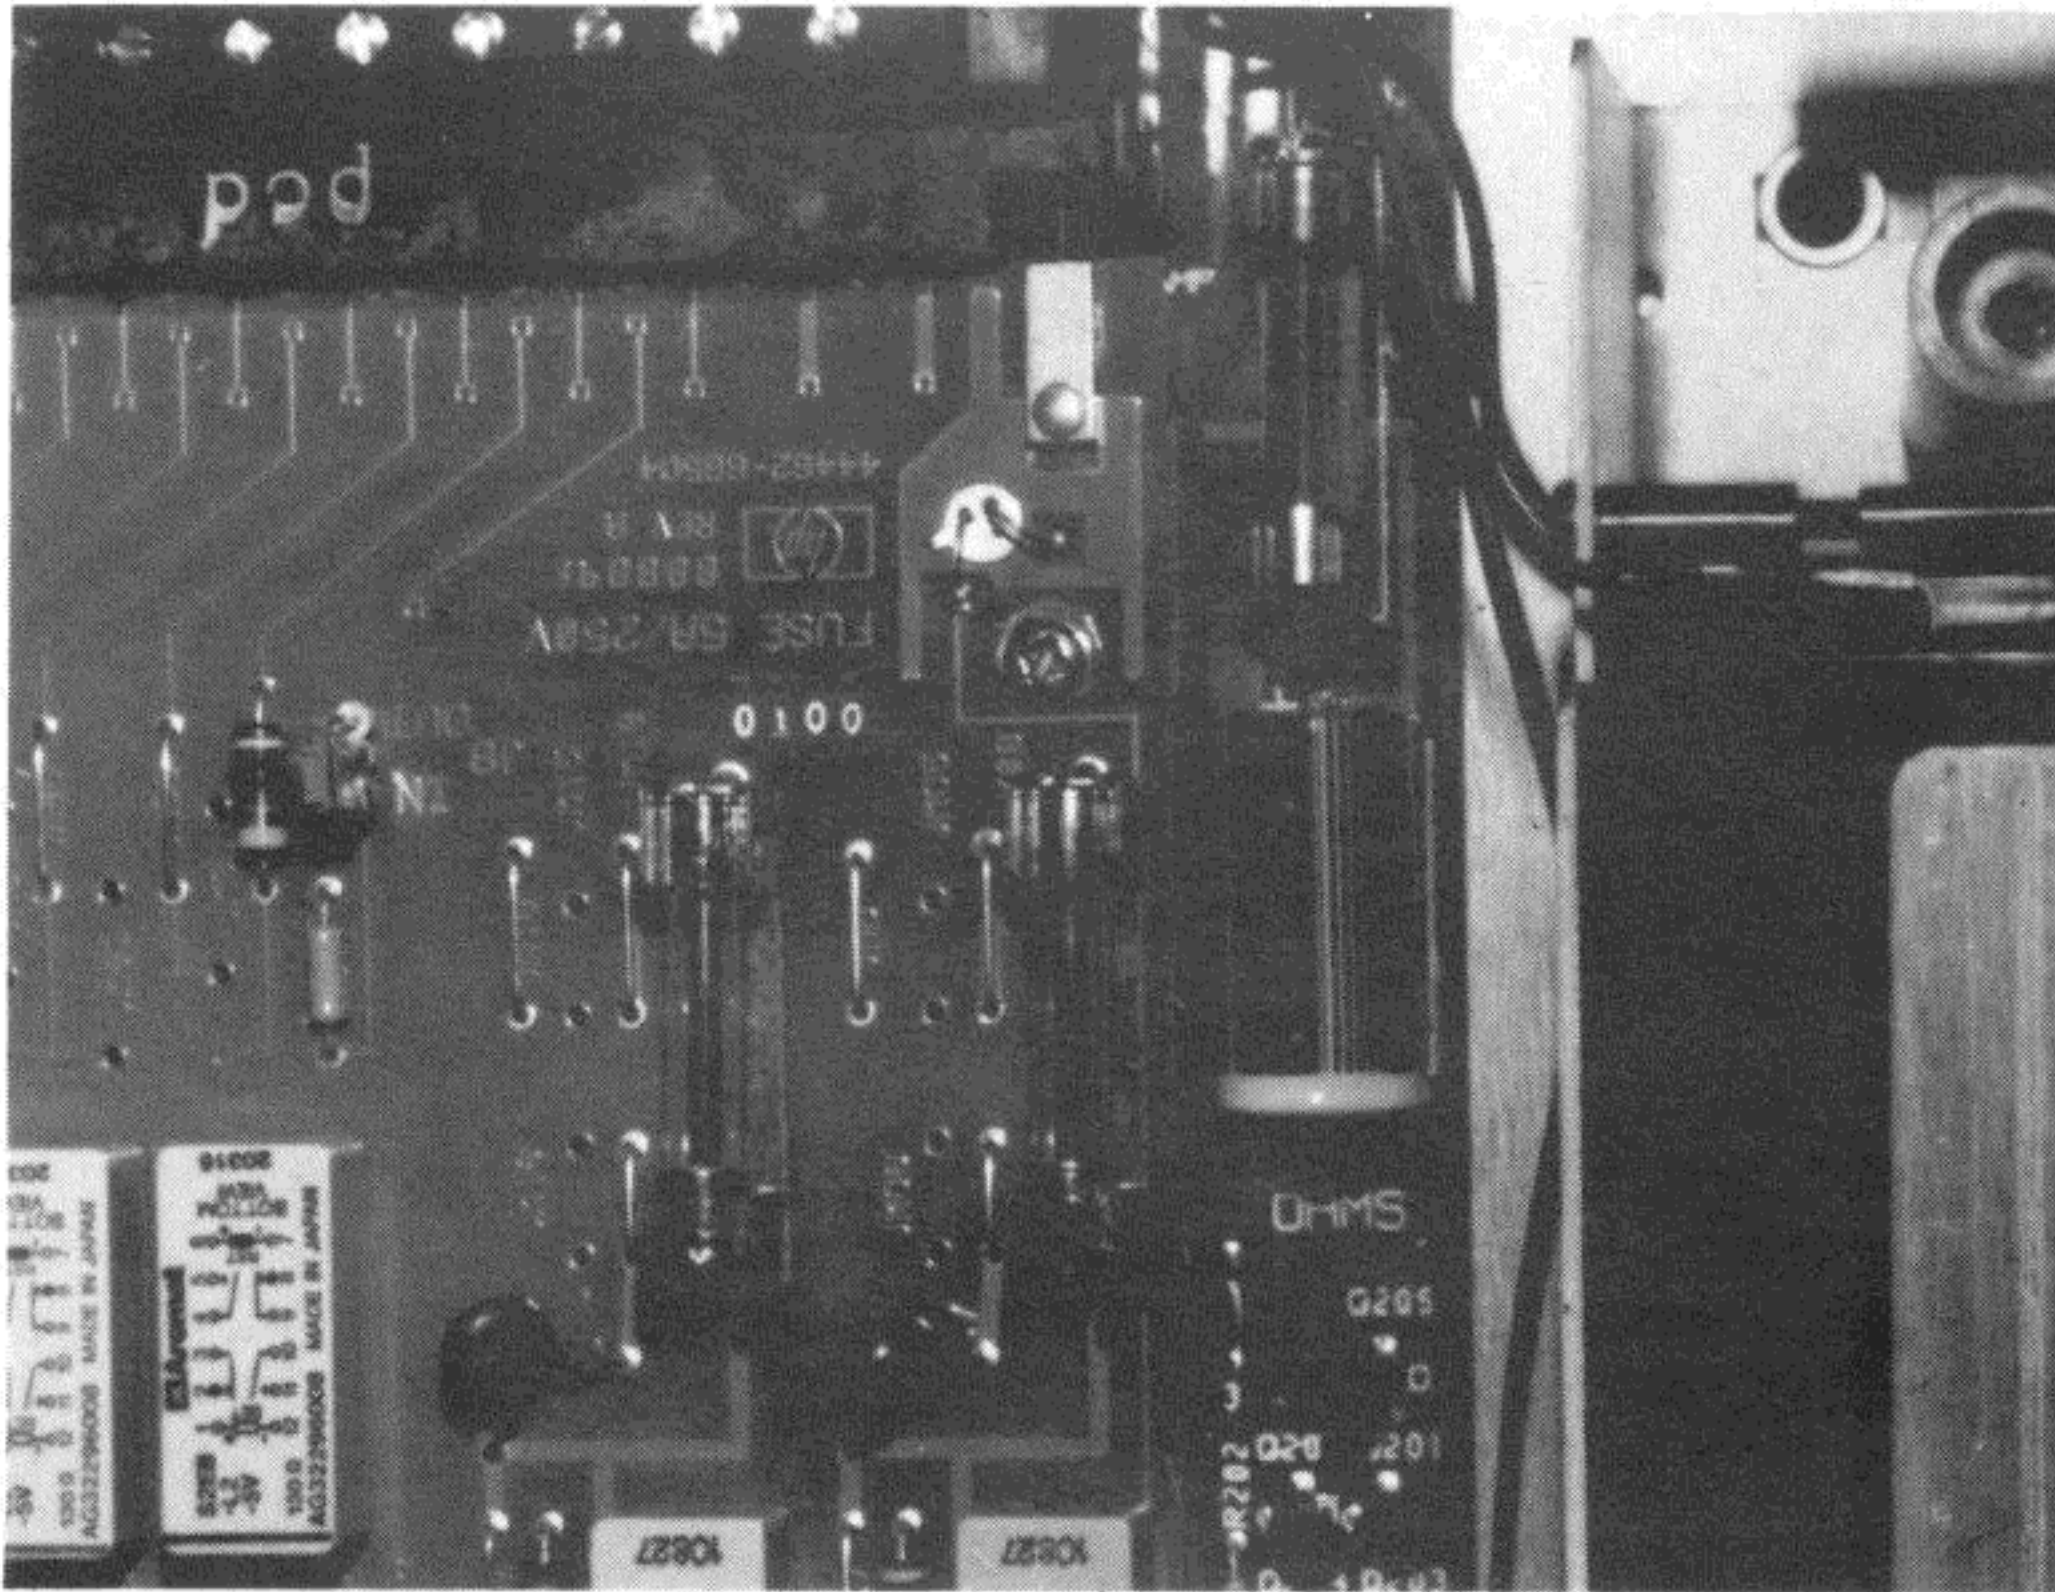

Figure 3-2-3. Remove Main Battery Fuse
- e. Refer to Figure 3-2-3 and locate the battery fuse toward the right rear of the instrument. Remove it from its socket. Instead of removing the fuse, you can unplug the red wire from the battery. If this is done, make sure the wire is placed out of the way and away from the battery.